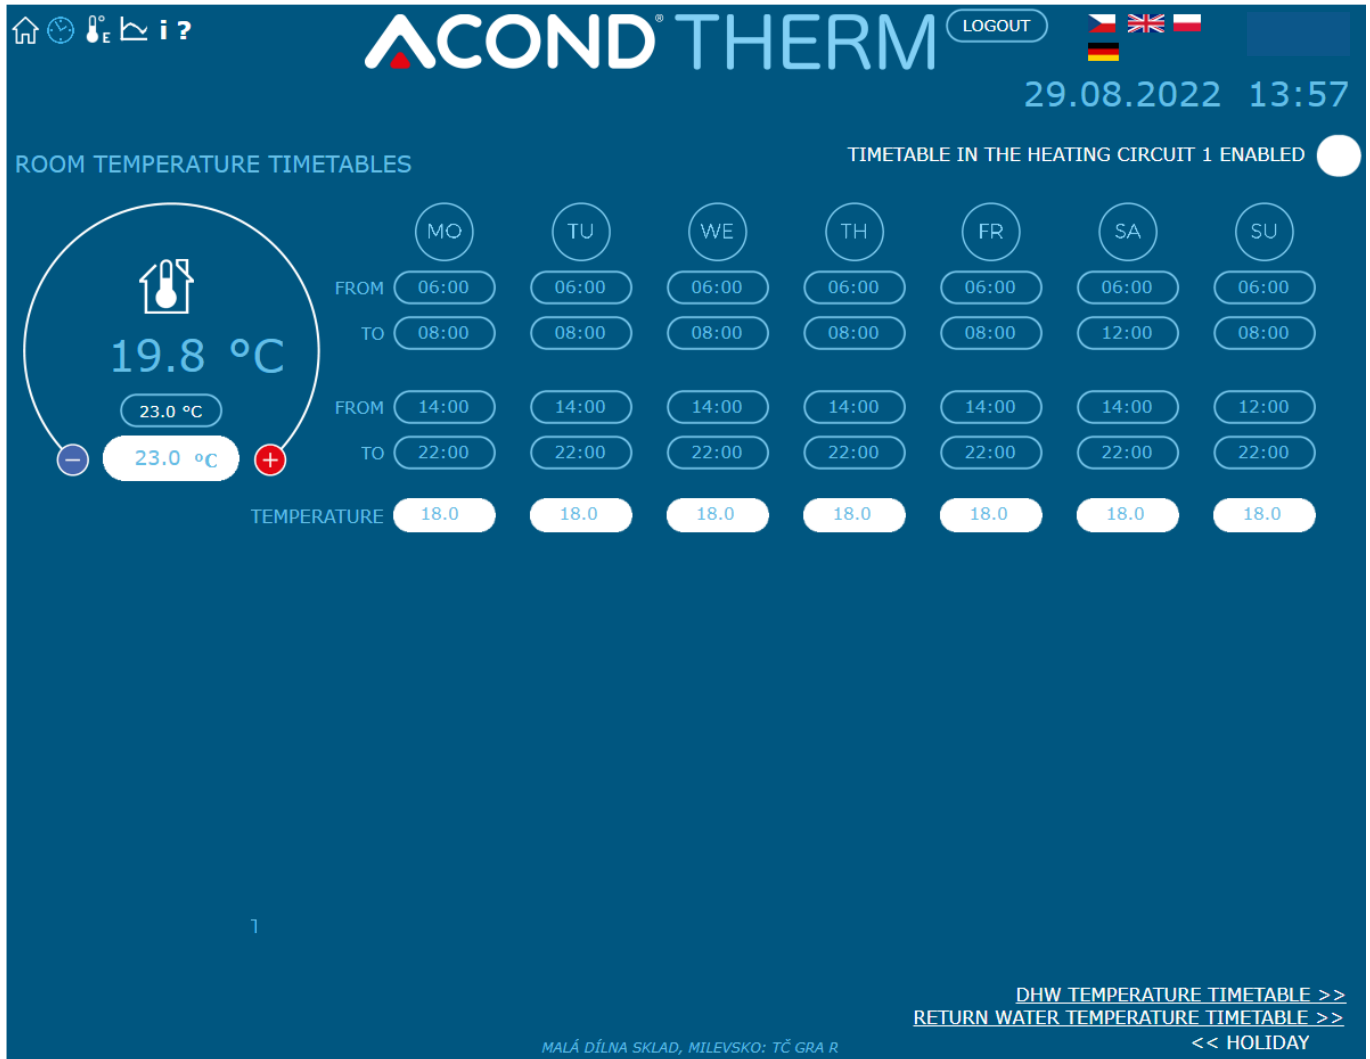

Fig 13 Room temperature schedule
2. **Timetables**  (Fig 13) allows setting the value of the automatic change of the desired room temperature (or temperature in the storage tank in STANDARD control) according to the time of day. Here it is possible to implement e.g. a night temperature drop.